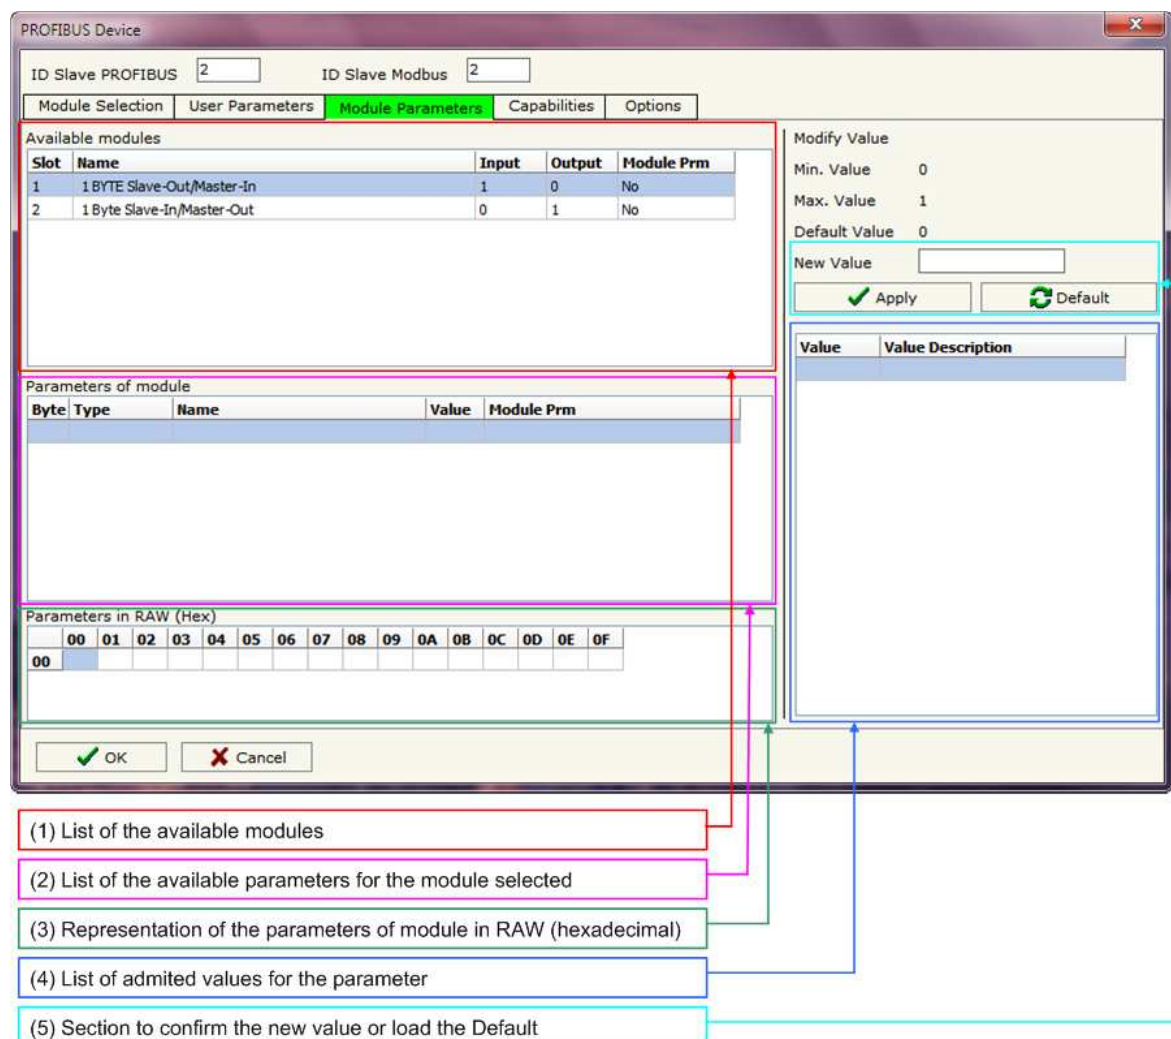

Figure 11: "PROFIBUS Device – Module Parameters" window
The section “Module Parameters” is used to modify the parameters of the Modules (Fig. 11).
- The List of all Module selected in the GSD file ("Available modules") (Fig. 11, point (1));
- The List of all Parameters available for the Module selected ("Parameters of module") (Fig. 11, point (2));
- The Configuration of all parameters in RAW for the Module selected ("Parameters in RAW (Hex)") (Fig. 11, point(3));
- The admitted value for the selected parameter. It is possible to select the value desired and confirm it with the **"Apply"** button. If no value appears in this table, the "Min Value" and "Max Value" are the limit of the parameter. (Fig. 11, point(4));
- The **"Apply"** button is used to confirm the new value of the parameter, the **"Default"** button is used to load the factory value for the parameter. In **"New Value"** edit box it is possible to set the new value. (Fig. 11, point(5));